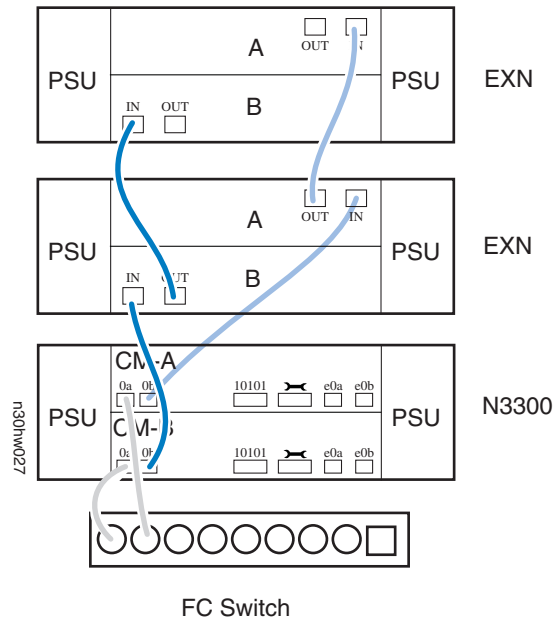

Figure 4. Cabling the N3300 to expansion units
3. As shown in Figure 4 on page 17, cable port 0b on the top controller module (CM-A) to the first expansion unit Channel A ESH2/ESH4 or AT-FCX IN port.
4. As shown in Figure 4 on page 17, cable port 0b on the bottom controller module (CM-B) to the first expansion unit Channel B ESH2/ESH4 or AT-FCX IN port.
5. As shown in Figure 4 on page 17, cable the first expansion unit Channel A ESH2/ESH4 or AT-FCX OUT port to the next expansion unit Channel A ESH2/ESH4 or AT-FCX IN port. Label this cable with a solid-colored label.
6. As shown in Figure 4 on page 17, cable the first expansion unit Channel B ESH2/ESH4 or AT-FCX OUT port to the expansion unit Channel B ESH2/ESH4 or AT-FCX IN port. Label this cable with a solid-colored label.